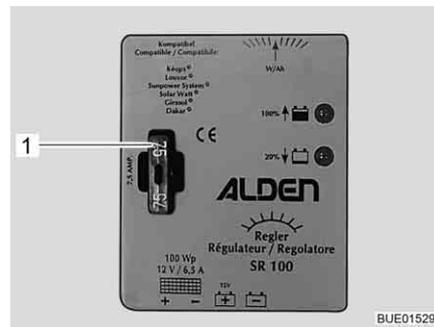

Fig. 151 Solar charge regulator fuse 100 W
- Replace flat fuse 5 A/light brown (Fig. 151,1).